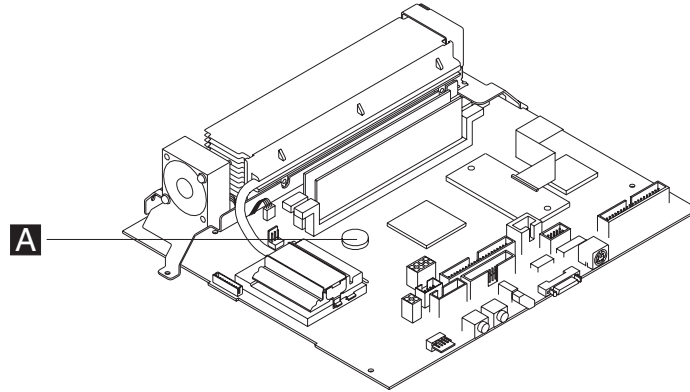

Figure 77. Removing the system battery
4. Bend the battery restraining tab to the side and lift up the battery **A**, as shown in Figure 77.